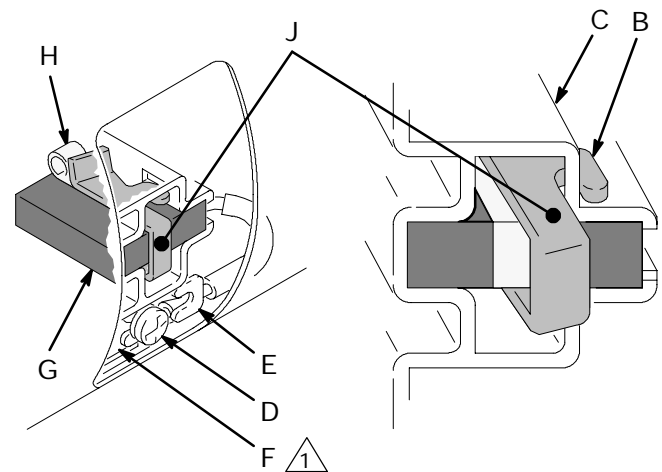

Fig. 4
4. Fig. 4. Push in spring clip (J) to release hook (B) from brush holder (C). Pull out spring clip.
5. Fig. 4. Loosen terminal screw (D). Pull brush lead (E) out of terminal, leaving motor lead (F) in place. Remove brush (G) and spring (H).